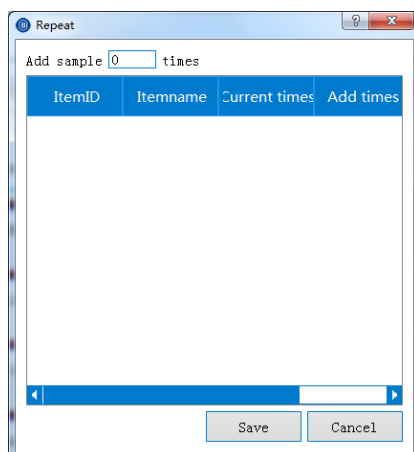

Figure. 8.3.2 Repeated sample addition
- Click **Repeat** on the **Sample edit** interface, and the interface shown in Figure 8.3.2 will pop up.
As shown in Figure 8.3.2, Enter the number of samples to add, click **Save** to exit the interface. The sample information is displayed in the sample data list of the sample data interface.